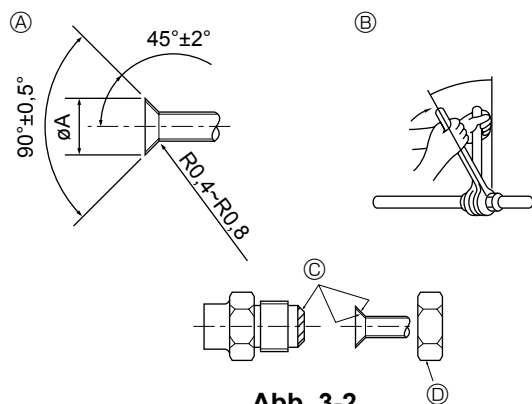

Abb. 3-2
3.2. Rohranschlüsse (Abb. 3-2)